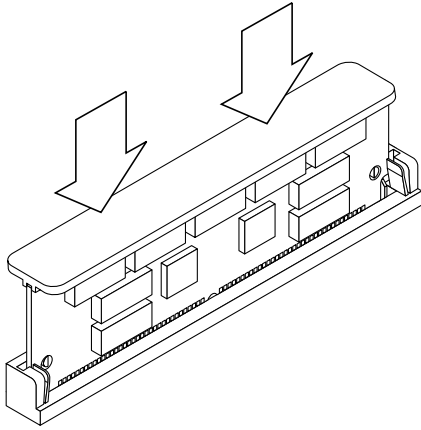

FIGURE 8-7 Using the Insertion Tool
8. Place the grooved surface of the insertion tool on the upper edge of the DSIMM board. See FIGURE 8-7.